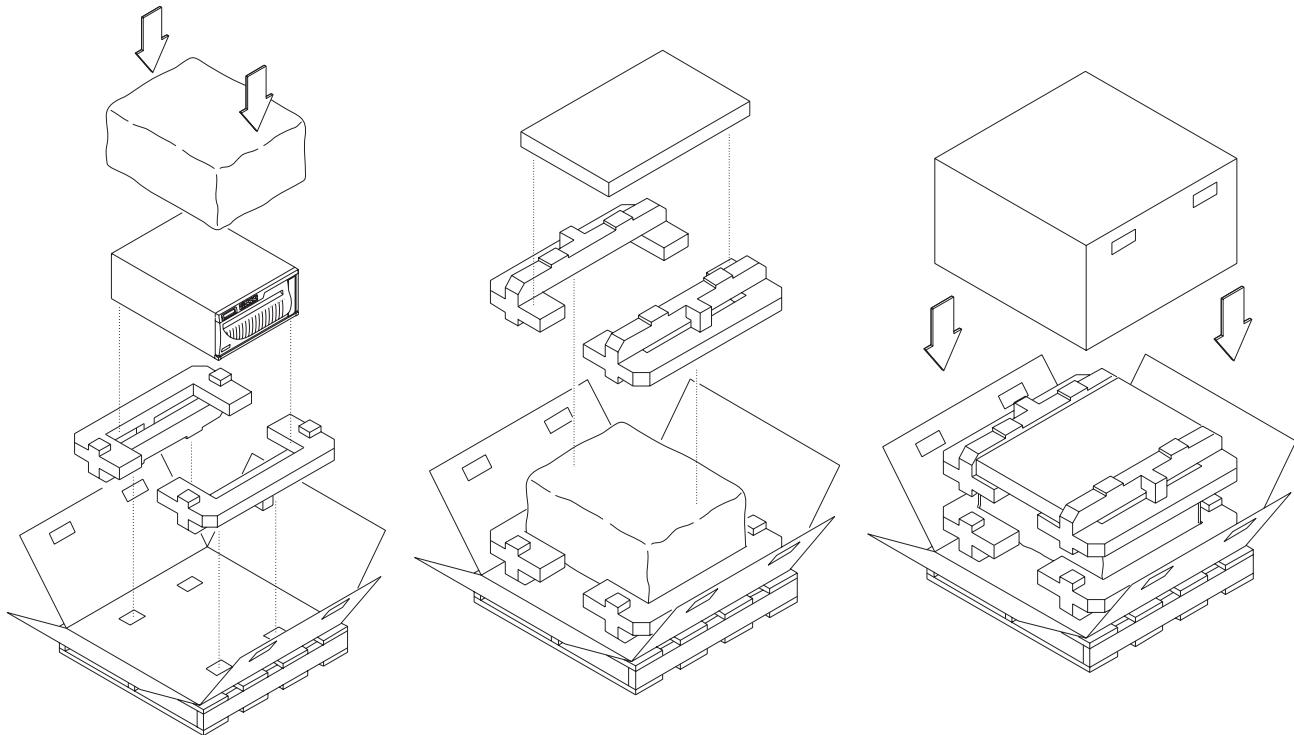

Figure 9-4 Packing the library for shipment
2. Place the box and two bottom cushions on the pallet, as shown in Figure 9-4.
3. Place the library on top of the bottom cushions, then place the antistatic bag over the library, as shown in Figure 9-4.
4. Place the two top cushions on the library, as shown in Figure 9-4. (Use the alignment holes in the packing pieces as a guide.)
5. If you are shipping accessories with the library, place the accessory box on top of the cushions, as shown in Figure 9-4.
7. Fold the side flaps up and place the carton over the library, as shown in Figure 9-4.